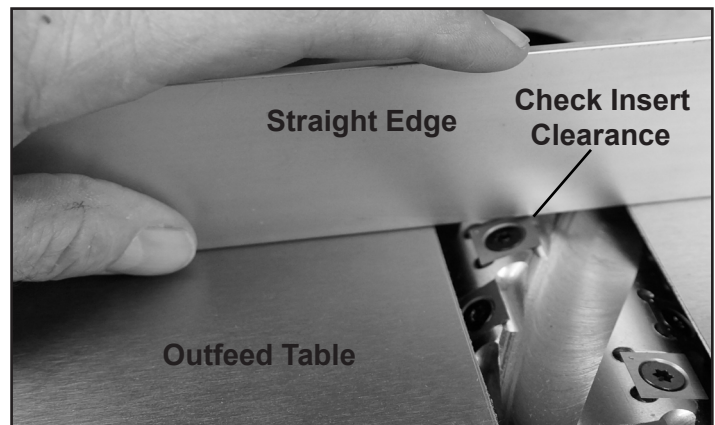

FIG. 31
3. With a long metal straight edge, place it lengthwise along the outfeed table so that it extends onto the insert cutter at its highest rotation point. Check the measurement on the insert cutter to the far right and then far left on the cutterhead. FIG. 31.